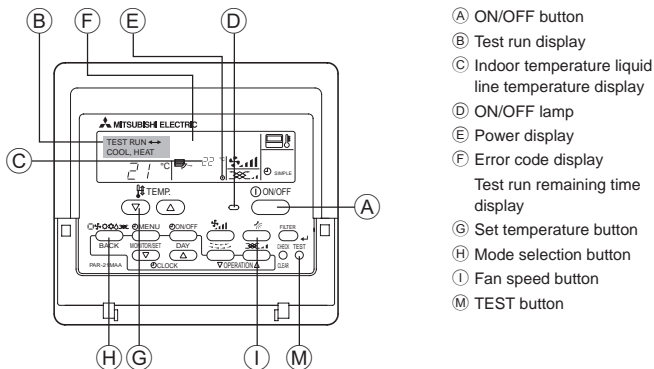

Fig. 7-1
7.2.1. Using wired remote controller (Fig. 7-1)
- ① Turn on the power at least 12 hours before the test run.
- ② Press the [TEST] button twice. → "TEST RUN" liquid crystal display
- ③ Press the [Mode selection] button. → Make sure that wind is blown out.
- ④ Press the [Mode selection] button and switch to the cooling (or heating) mode. → Make sure that cold (or warm) wind is blown out.
- ⑤ Press the [Fan speed] button. → Make sure that the wind speed is switched.
- ⑥ Check operation of the outdoor unit fan.
- ⑦ Release test run by pressing the [ON/OFF] button. → Stop
- ⑧ Register a telephone number.